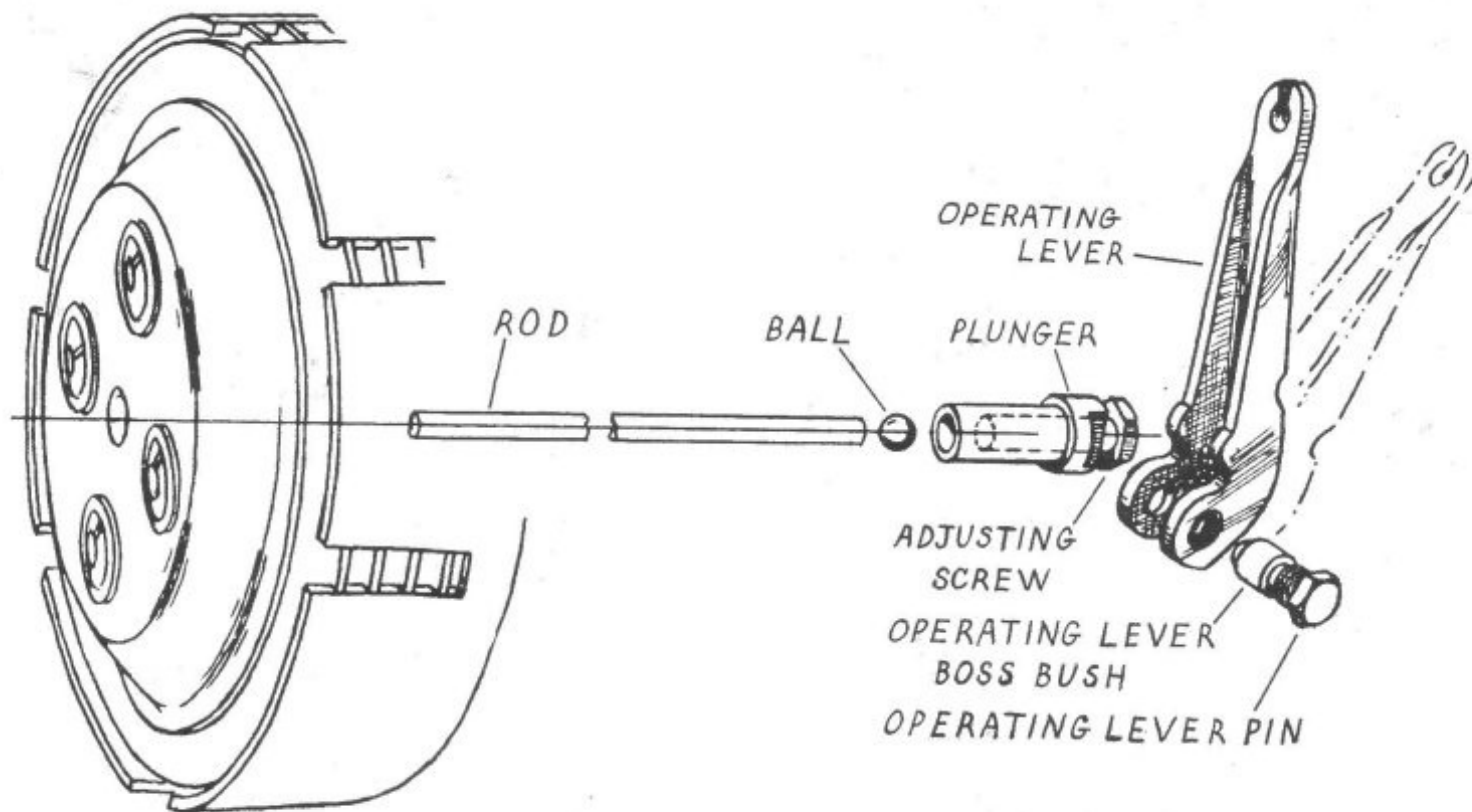

Fig. D1. Clutch Withdrawal Adjustment.
I. Clutch Adjustment (See Fig. D1).